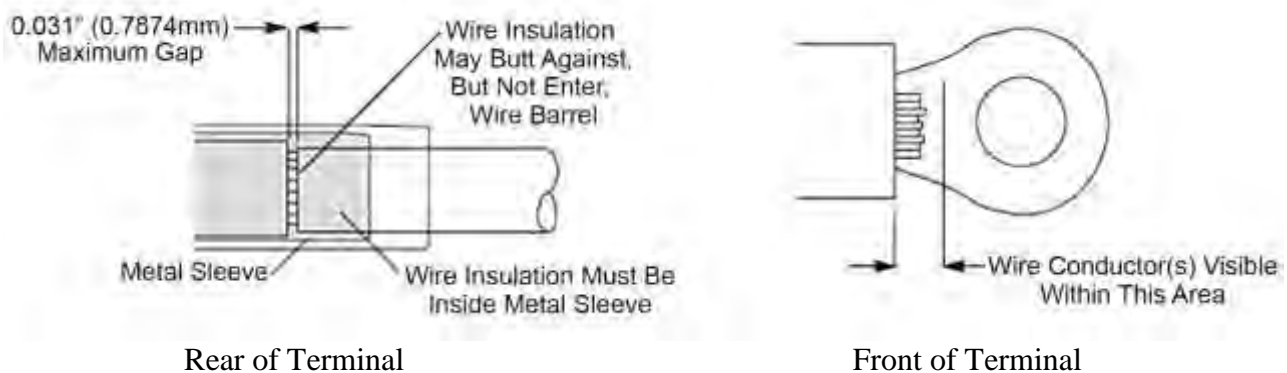

Figure 237
- (e) Insert stripped wire into the wire barrel of the terminal lug until the wire insulation is against the wire barrel, but not inside it. The wire insulation must be inside the metal sleeve. A gap between the wire insulation and wire barrel is allowed, but not to exceed 0.031in. (0.7874mm). See Figure 237.